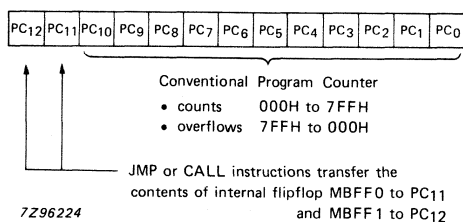

Fig. 17 Program counter.
**Program counter (see Fig. 17)**
The 13-bit program counter is able to address 8 K bytes of ROM. The arrangement of the bits is shown in figure 17. During an interrupt subroutine PC11 and PC12 are forced to logic 0. All 13 bits are saved in the stack during CALL and interrupt routines.